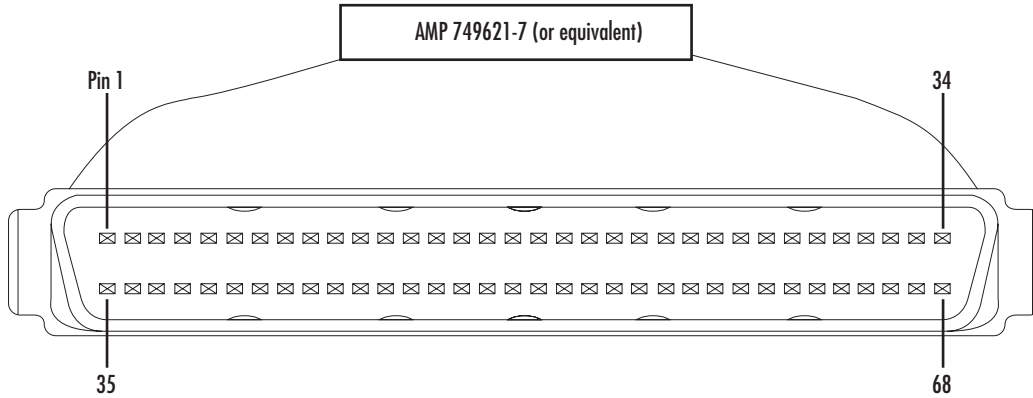
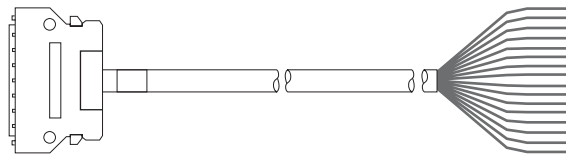

Figure 9. WAN cable’s 68-pin SCSII connector
Figure 10. 68 pin SCSII-to-RJ45 6-foot WAN cable
1. Connect the 68-pin SCSII connector (figure 9) of the 6-foot WAN cable (figure 10) to the connector on the rear panel of the Model 3096RC